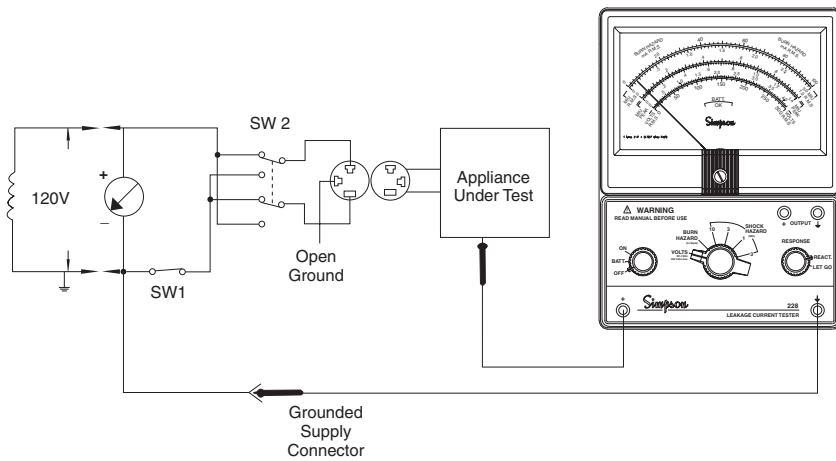

Figure 7. Typical Test Setup
3. Connect the Instrument and equipment under test. Figure 7, above, shows a typical test setup. Do not apply power.